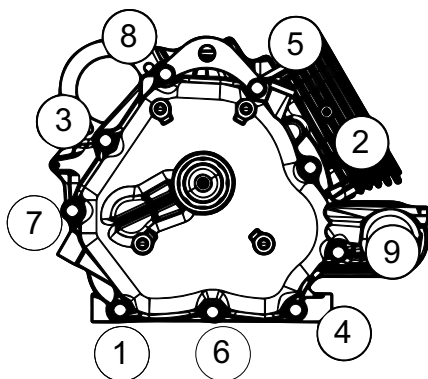

Figure 9-11. Crankcase Cover Bolt Tightening Sequence
12. See Figure 9-11. Install crankcase cover bolts and tighten. See Specifications for torque specifications.